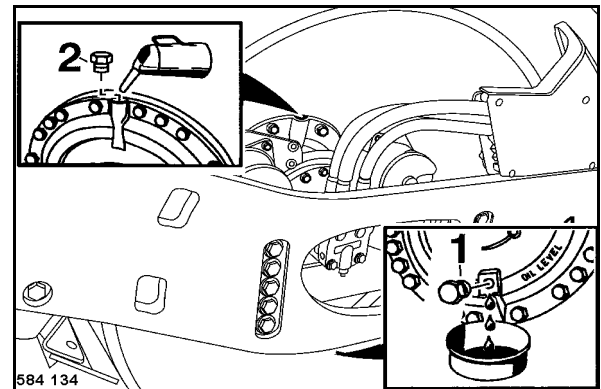

Fig. 130
- Move the drum, until oil level inspection plug (1) (Fig. 130) on the left hand side of the drum is in bottom position.
- Unscrew level inspection plug (1).